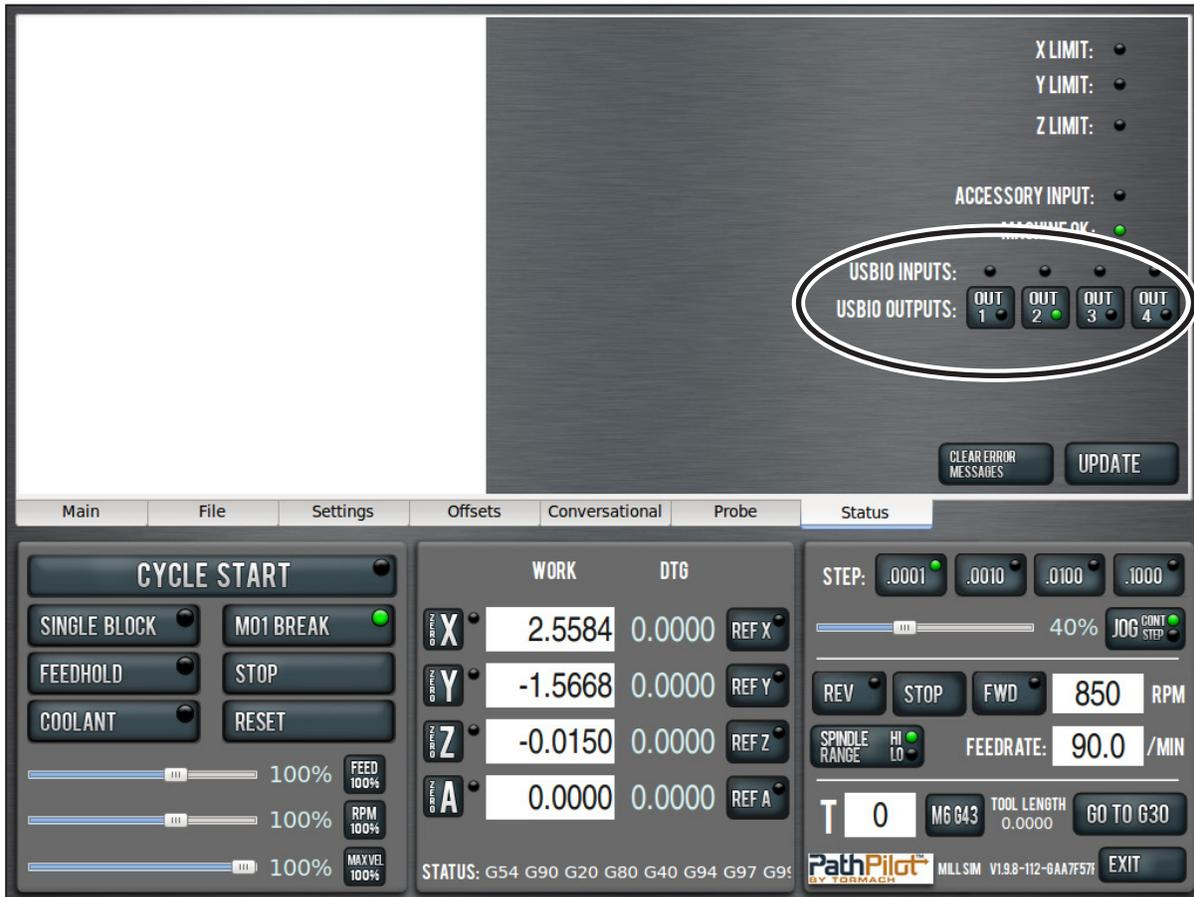

Figure 1
- #1021: Mill/Lathe - USB IO Board: In the *Status* tab, added buttons to control relay state (see **Figure 1**).